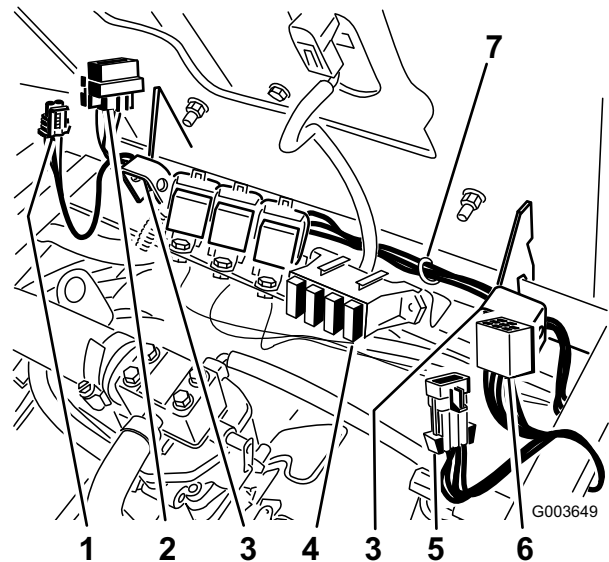

Figure 32
3. Route the harness along the seat hinge from the switch and to the relay previously installed to the valve (Figure 32).
Install the fuse into right slot in the fuse block (Figure 32).